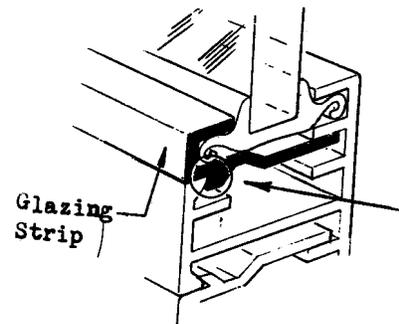

Fig. 16
3. Strip will seat when locking edge snaps into the frame channel (Fig. 16).